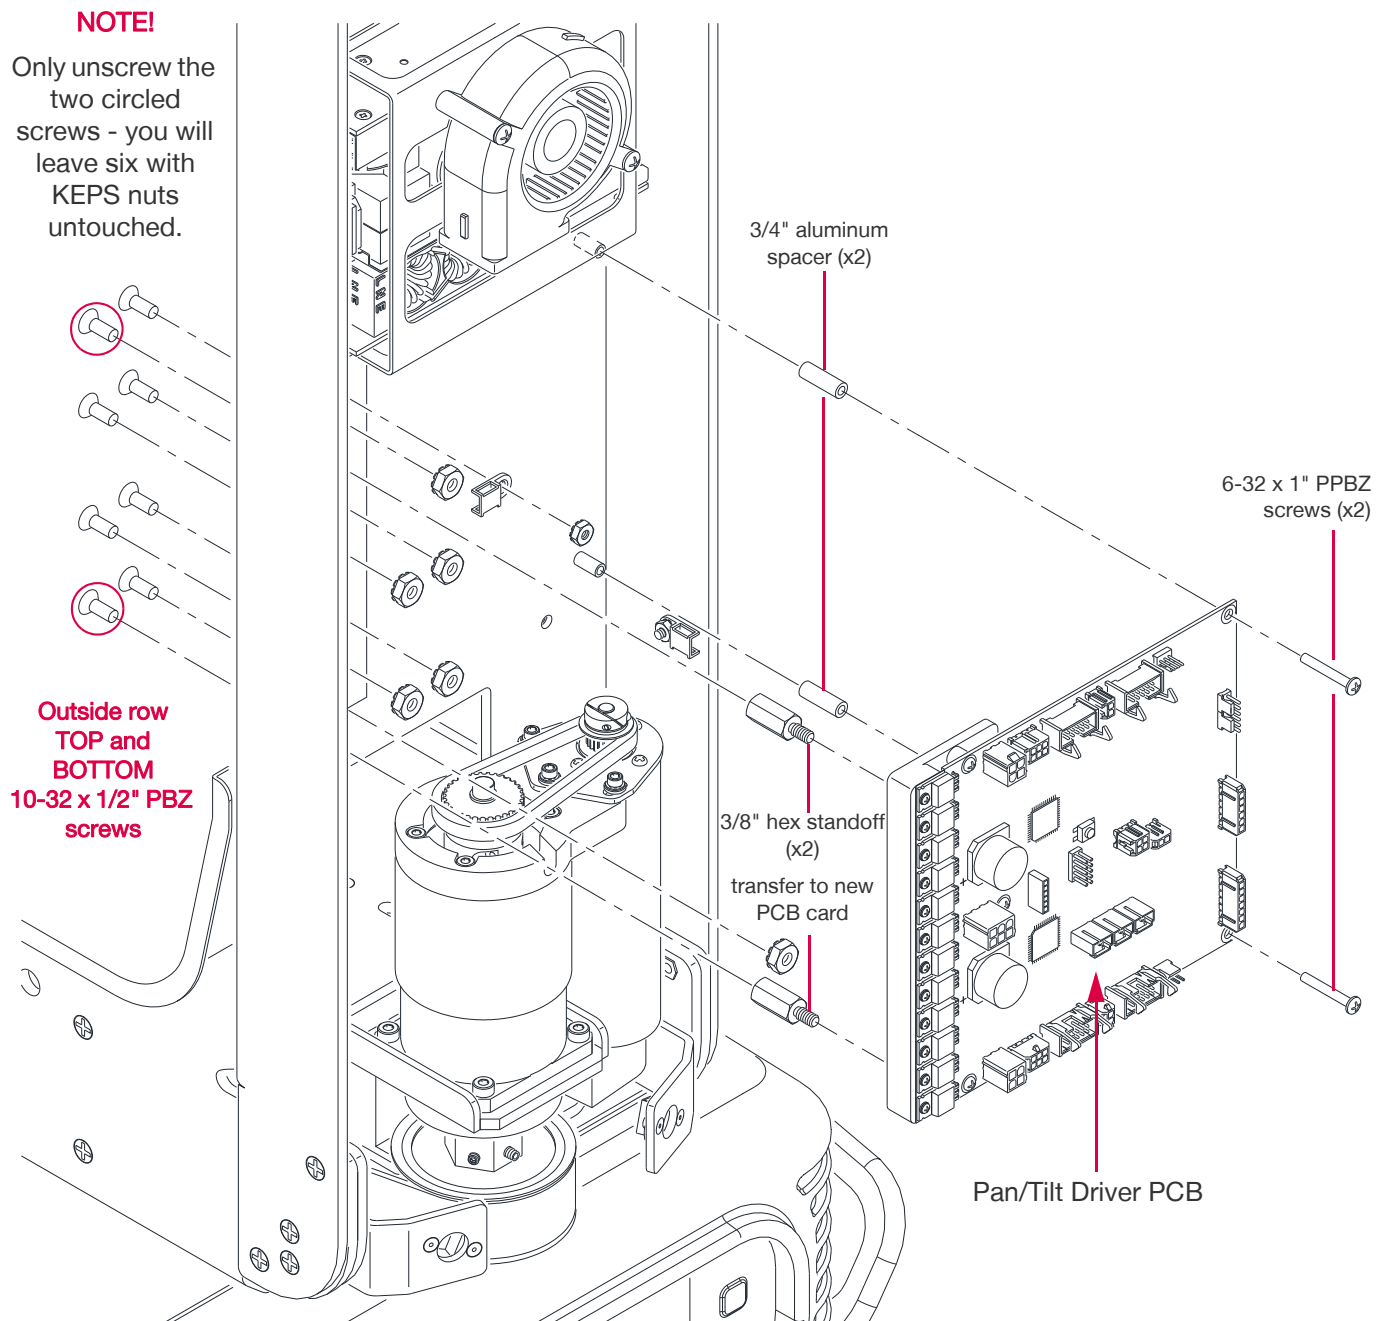

Figure 3-49: Removing the Pan/Tilt Driver PCB
Note: Check **Figure 3-49** below to determine which two screws to remove on the yoke side; you will only need to remove two of eight screws from the yoke side to free the card.
- Step 5. Disconnect the Tilt Mechanism motor from the Pan/Tilt Driver PCB on the Pan-Side Yoke Arm and feed the cables through to the Tilt-Side Yoke Arm. See **Figure 3-49**, "**Replacing the Pan/Tilt Driver PCB**" on page 96.